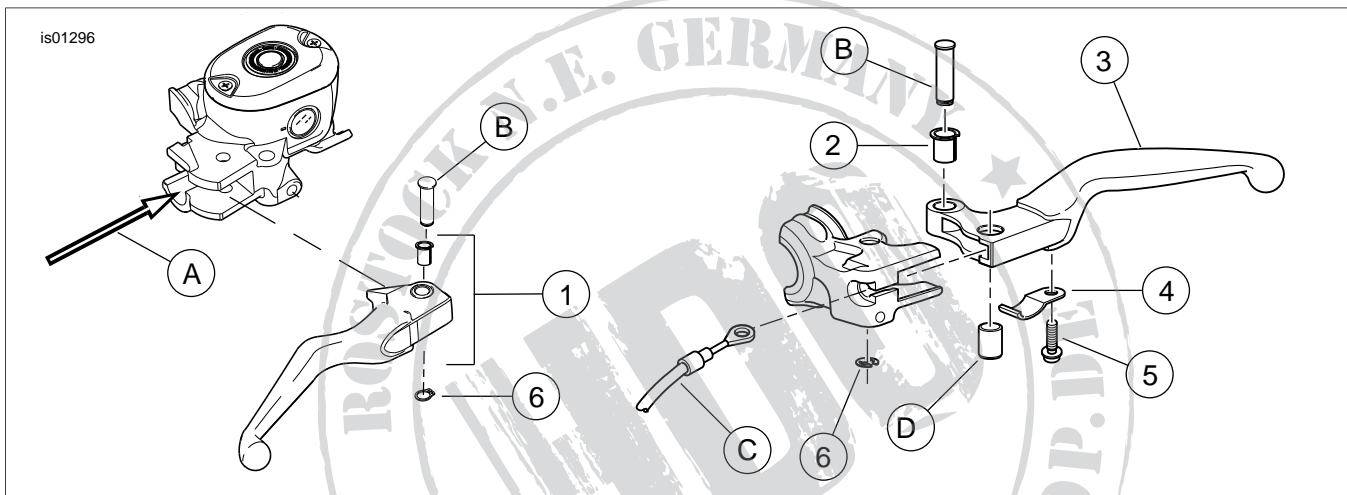

Figure 2. Service Parts: XL Hand Lever Kit
See Figure 2 and Table 1.
2. See Figure 2. Remove retaining ring from pivot pin groove at bottom of master cylinder bracket. Save the pivot pin for re-use, discard the retaining ring.